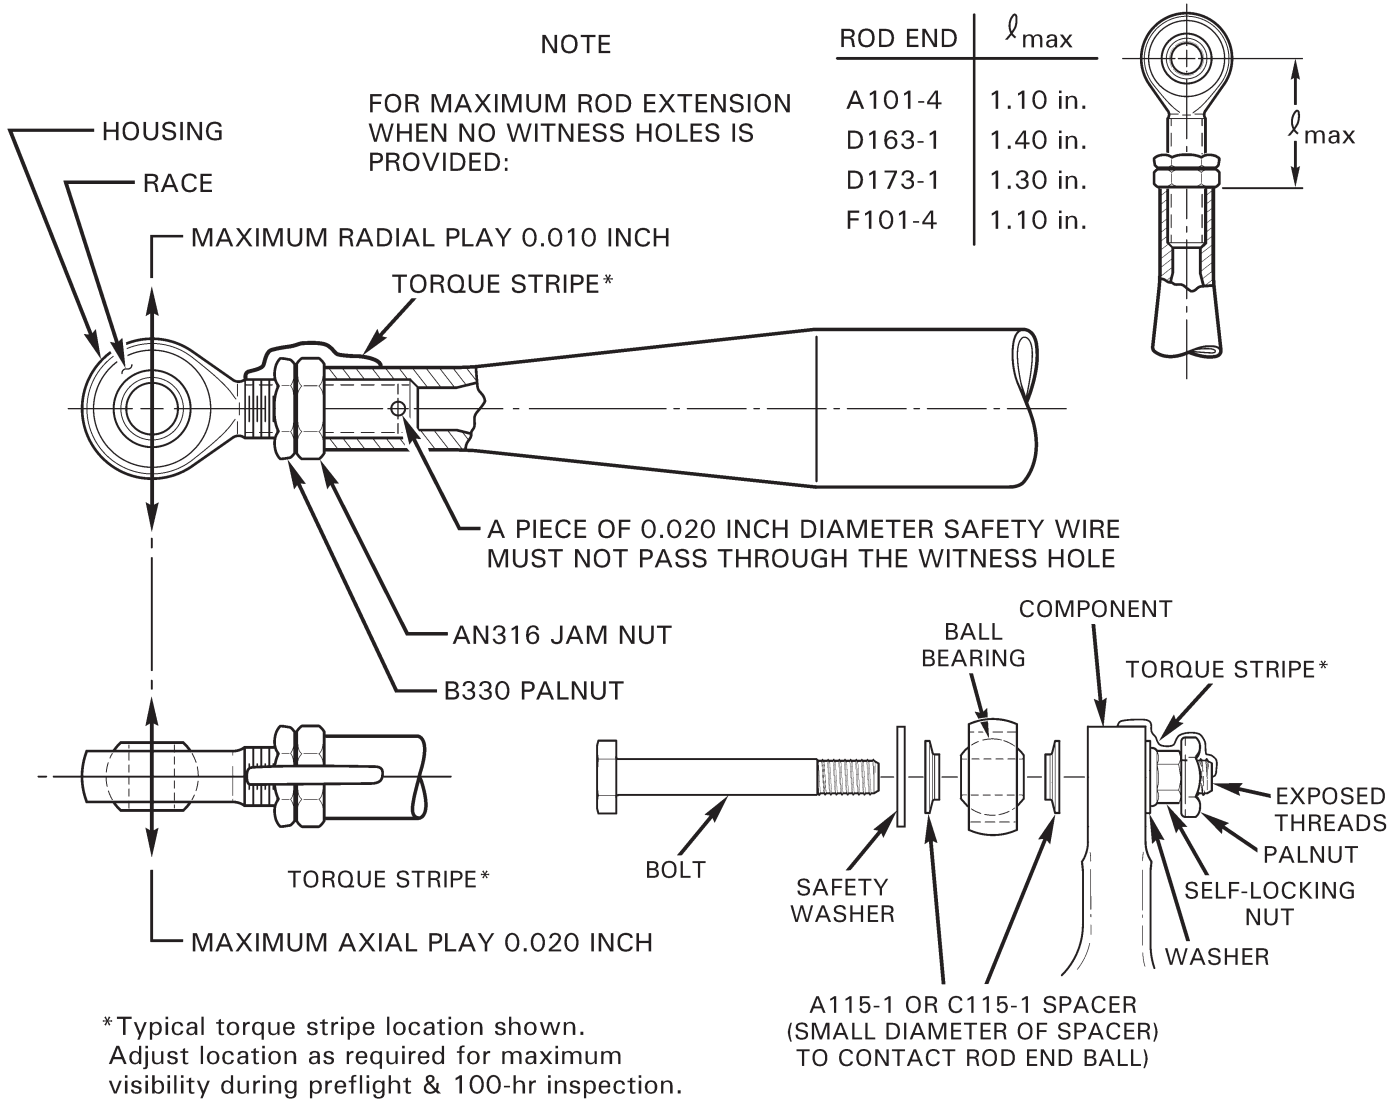

FIGURE 2-1 ROD END AND SPHERICAL BEARING PLAY LIMITS AND TORQUE STRIPE APPLICATION
Refer to Figures 2-1 & 2-1A.
3. Rod ends not riveted in place must block passage of 0.020-inch diameter wire through witness hole. Refer to Figure 2-1 for maximum rod end extension when no witness hole is provided.
4. Rod end jam nuts and palnuts must be torqued per § 23-32 and torque striped per Figure 2-1 at the most visible position for pre-flight inspection. Torque stripe must extend across nuts to both rod end shank and push-pull tube (or pitch link barrel, yoke, support, strut, etc.). Torque stripes are subject to deterioration and must be periodically renewed.
If, during inspection, the remaining torque stripe on a fastener is insufficient to determine joint integrity, then remove accompanying palnut as required and apply specified torque to fastener. If fastener moves, disassemble joint and inspect parts for damage such as fretting, thread deformation, hole elongation, etc.; replace damaged parts. If fastener does not move, install new palnut as required & standard torque per § 1.320. Torque stripe fastener per Figure 2-1.